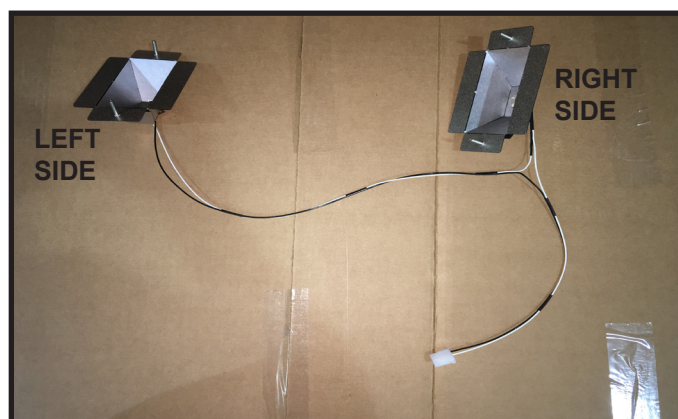

Figure 5.
1. Layout MI-ALK-AU parts so they are readily accessible. The wire harness is not symmetrical; thus, there is a left and right light tub. See Figure 5.